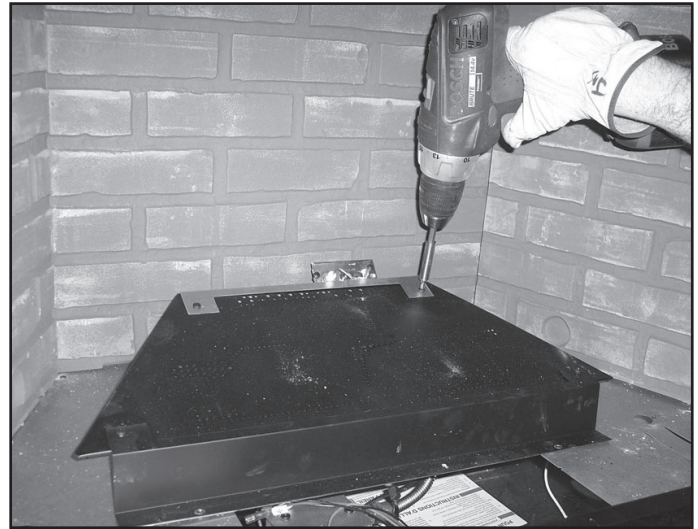

Figure 14.29 Remove Screws Attaching Back Burner Support
- Remove the two screws attaching the back burner support to the burner pan. See Figure 14.29.